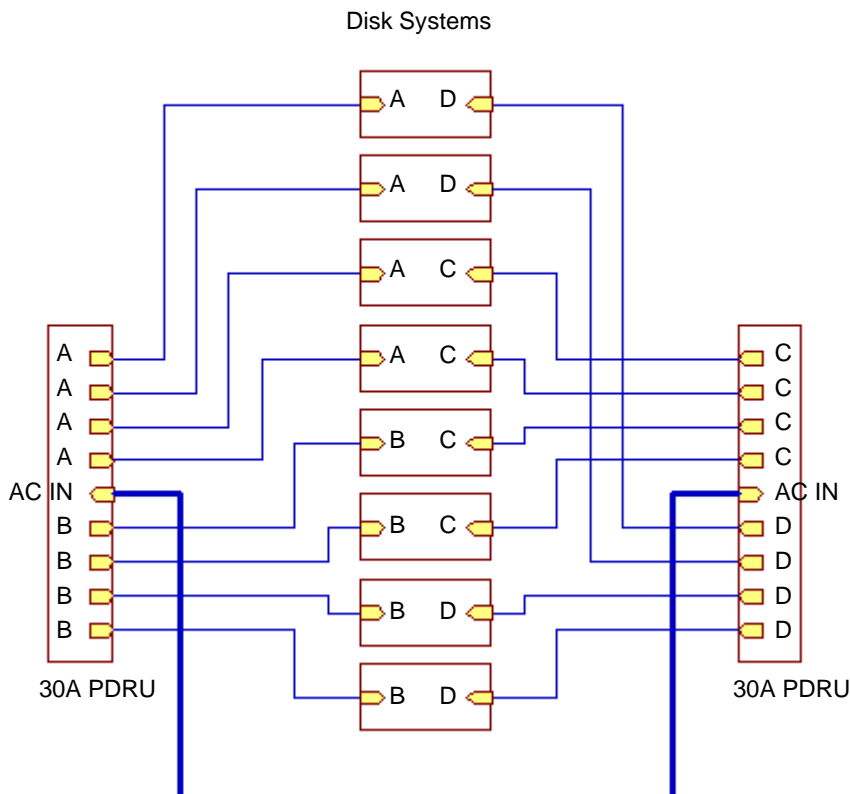
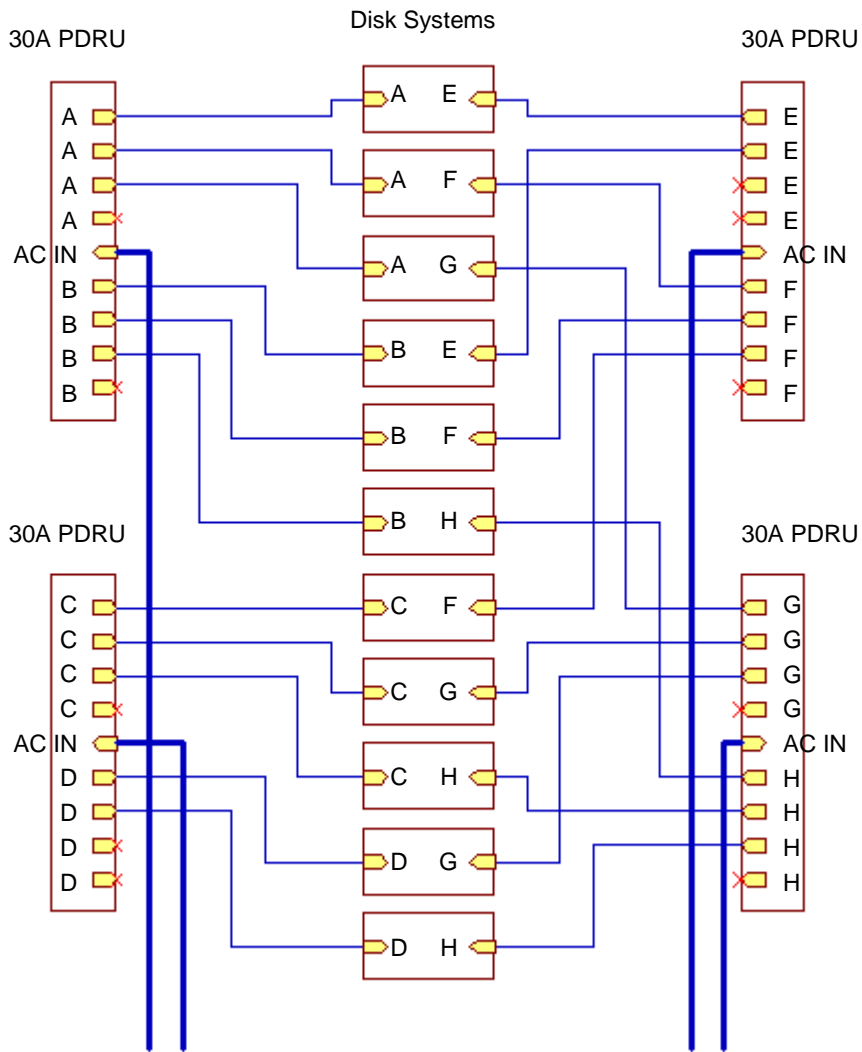

Figure 27 Wiring Scheme for 1.6 Meter Rack
Figure 28 Wiring Scheme for 2.0 Meter Rack
- **Redundancy.** To extend the redundancy of the product, attach each cord to a different PDU. This is represented in Figure 27 and Figure 28 by the absence of duplicate letters in each disk system.
- **Reliability.** To avoid cascading faults for a group of disk systems that are plugged into the same PDU, distribute the redundant power cords among different PDUs. This is represented in Figure 27 and Figure 28 by the minimum number of duplicate pairs of letters among all disk systems. “Cascading” refers to overload faults that occur on a backup PDU as a result of power surges after the primary PDU fails.